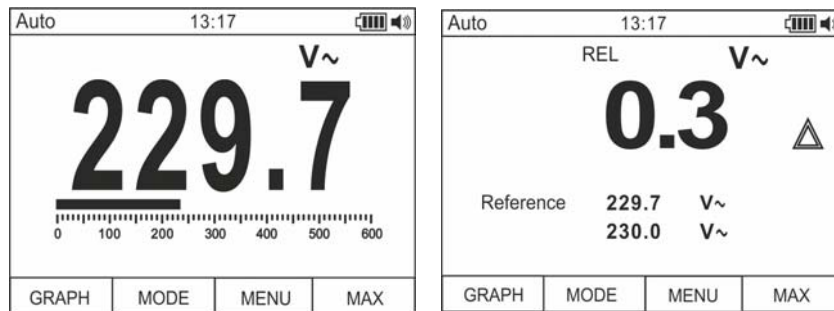

Fig. 5: Relative measurement
1. Press and hold the **HOLD/REL** key to enter relative measurement (see Fig. 5 – right side). The message “REL” and symbol “ Δ ” appear on the display.